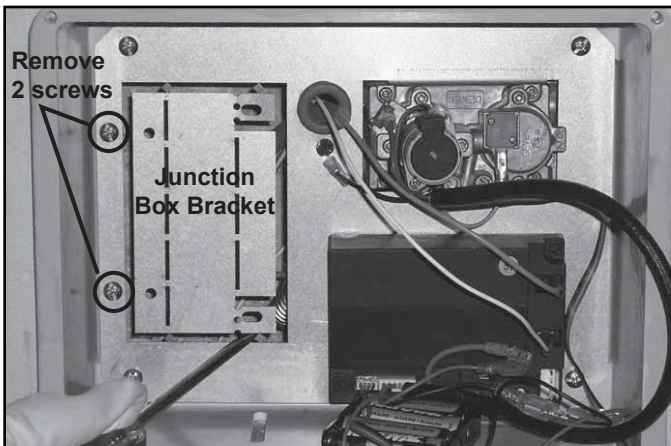
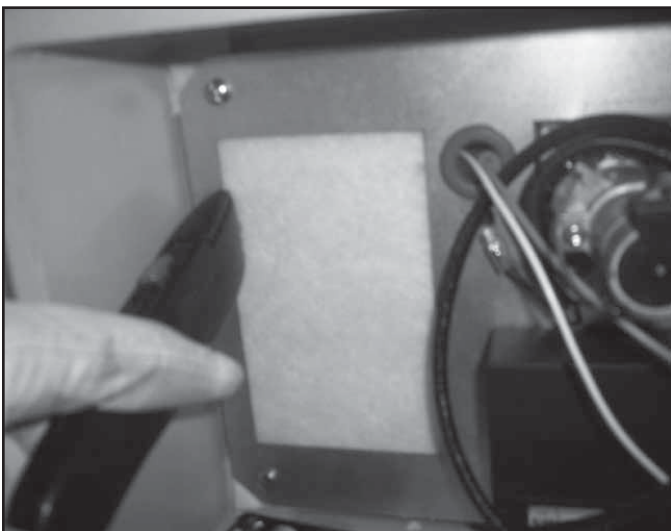

Figure 5.2 Remove Junction Box Bracket & Two Screws
Figure 5.3 Cut and Remove Insulation
- Remove the junction box bracket by prying loose with a screwdriver. Remove the two screws shown in Figure 5.2. Cut out and remove insulation from behind junction box bracket as shown in Figure 5.3.